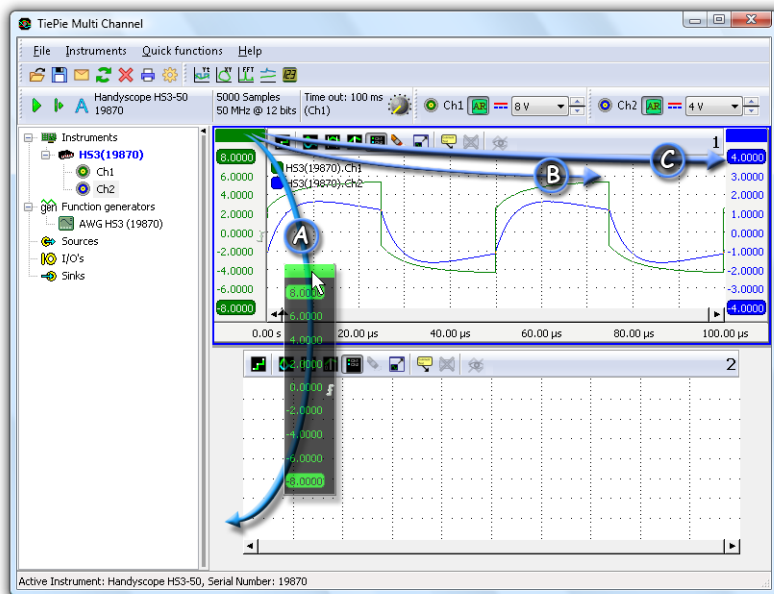

Figure 4.6: Axes can be moved to different targets.
**Moving axes** Measured signals can be moved with their axis by dragging the tab of the axis. Some different possible targets are depicted in figure 4.6: